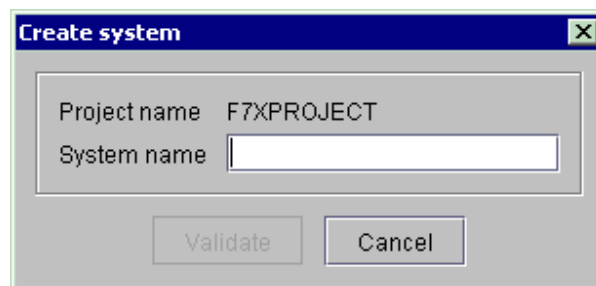

Figure 121 : Create system window
- ♦ Select the **Create...System** command; the *Create system* window (Figure 121) is displayed.